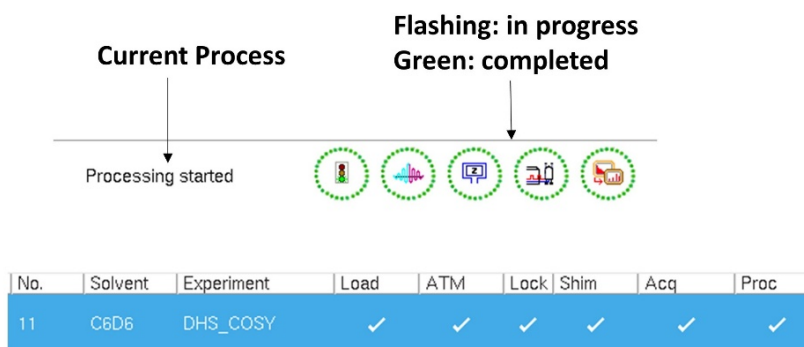

Figure 8. IconNMR automation process
- Once you add all information, click on "Submit" to queue your sample. IconNMR automation will load your sample, tune and match, lock, shim, acquire and process the data automatically (Figure 8).